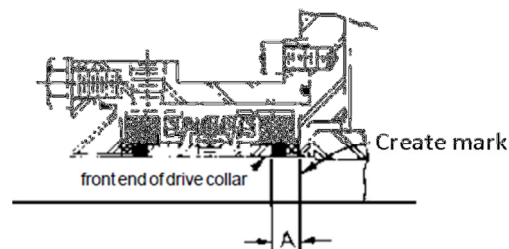

Figure 3: E Seals
6. Set the drive collar to the scribe mark shown in Figure 3 and secure it to the shaft by tightening the set screws.